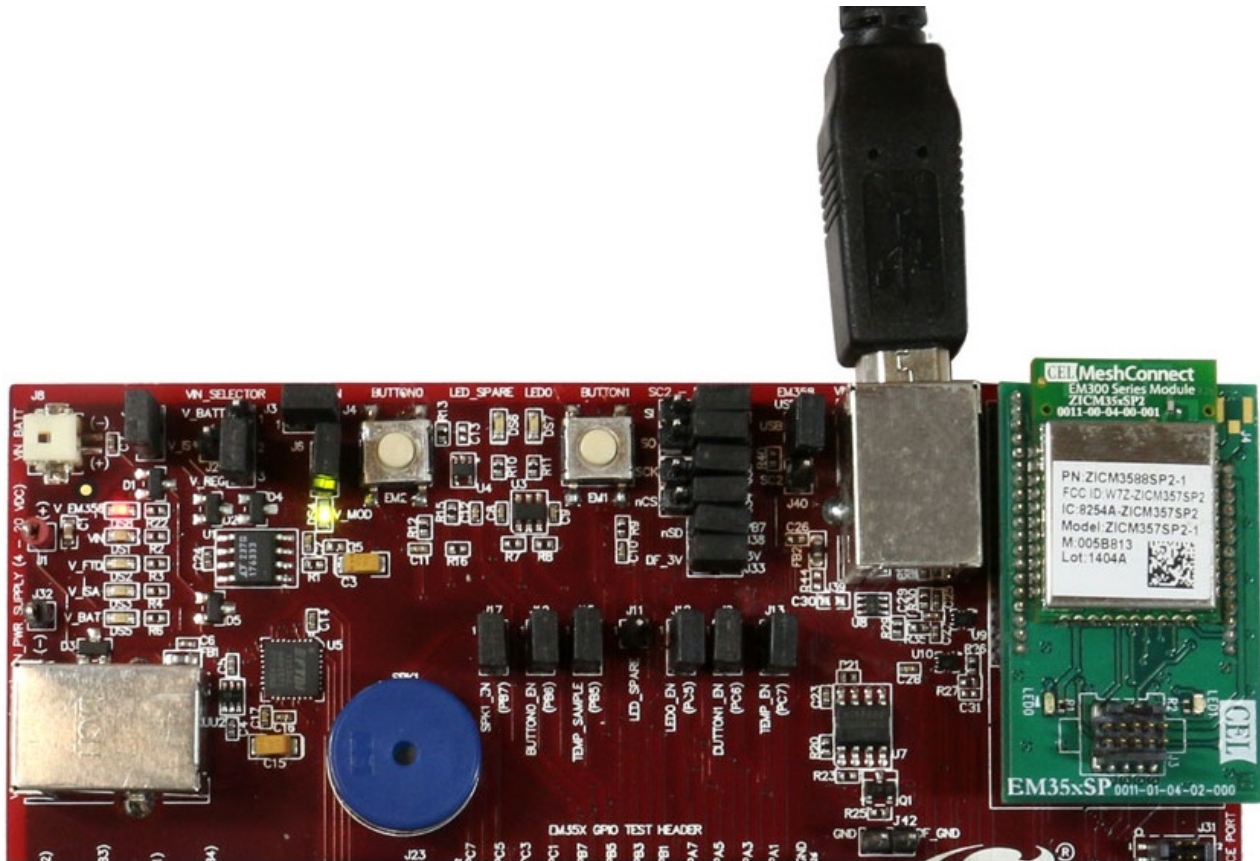

Figure 11. Breakout Board Power Supplied by EM3588 USB (J39)
- Figure 11. Breakout Board Power Supplied by EM3588 USB (J39) (Figure 11): Finally, the Breakout Board may also be powered through the EM3588 USB connector (J39), either using a USB cable plugged in to the USB power adapter included in the development kit, or by connecting it to your PC. The power supply jumper on the Breakout Board should be in the lower vertical position, connecting V_REG to the center